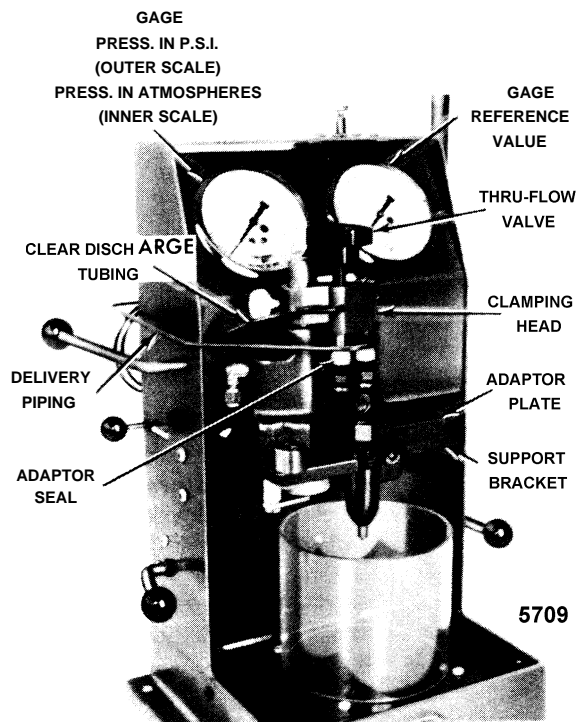

Fig. 2 - Injector Installed in Tester J 23010-A with Clamping Head
2. Align the clamping head seals over the injector filter caps (Fig. 2).